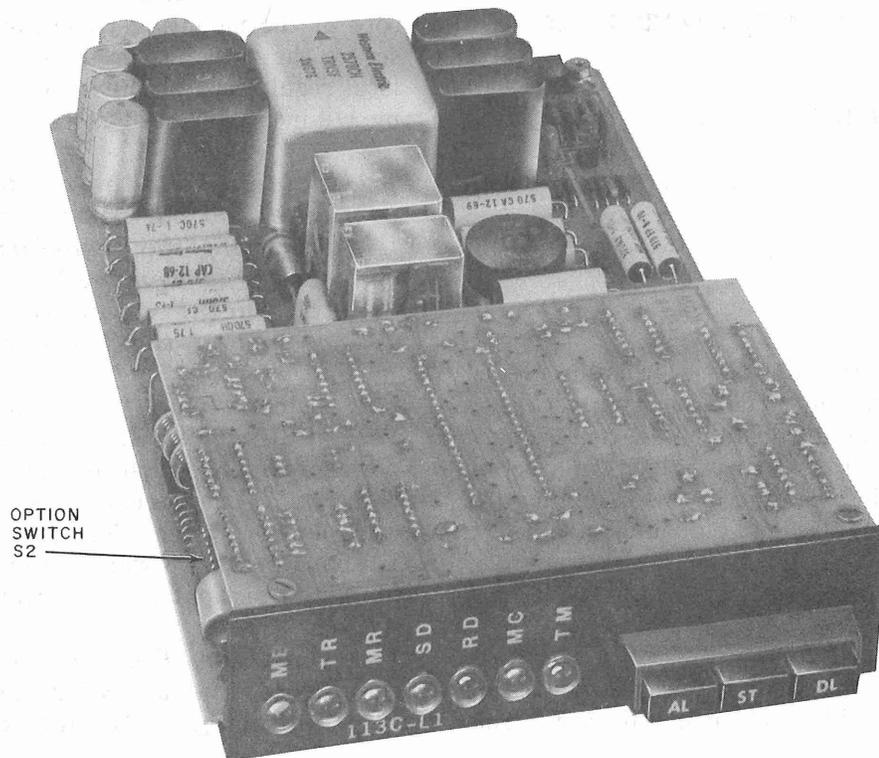

Fig. 1—DS 113C-L1
**2.01** DS 113C-L1 must be removed from the mounting to be accessible (Fig. 1).
**3.04** Data set options are determined by the switch settings S1 (on data mounting) and S2 (on circuit pack). See Fig. 1 and 2. A description of the options shown in Table A follows.